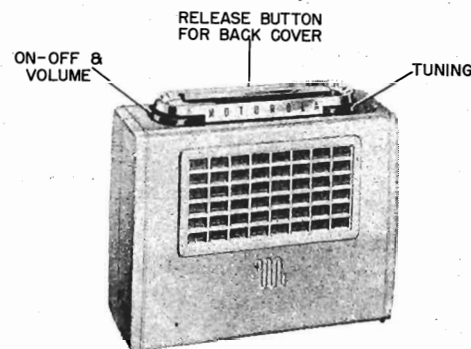

FIGURE 1. FRONT VIEW OF RECEIVER
**CONTROLS.** The volume control and power switch are combined and are operated with the **VOLUME** knob (see Figure 1). Select stations with the **TUNING** knob. The markings on the dial scale can be read in kilocycles by adding two zeros to the figures.